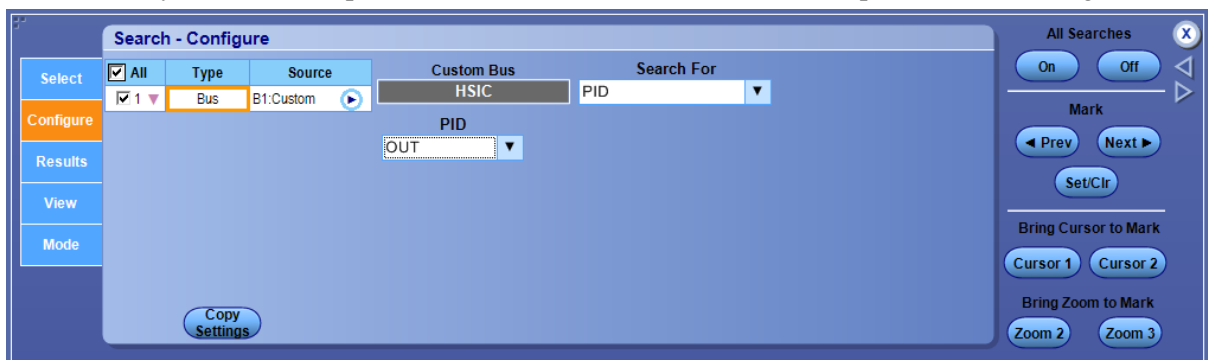

Figure 25 Configure tab – Choose PID option
8. Select any of one these options -IN, OUT, SETUP from the PID Dropdown. Refer to Figure 25.